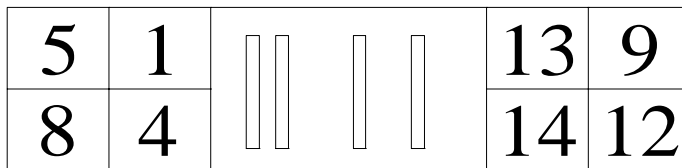

Figure 13 Relay Socket Pin Numbers
2. Add a jumper between relay socket pins 5 and 8, add a jumper between relay socket pins 8 and 12, and unplug the relay from the socket. The relay socket pin numbers are on the socket. Figure 13 shows the socket pin numbers. Note: Bypassing the relay in this manner should be a temporary fix until the relay can be replaced.